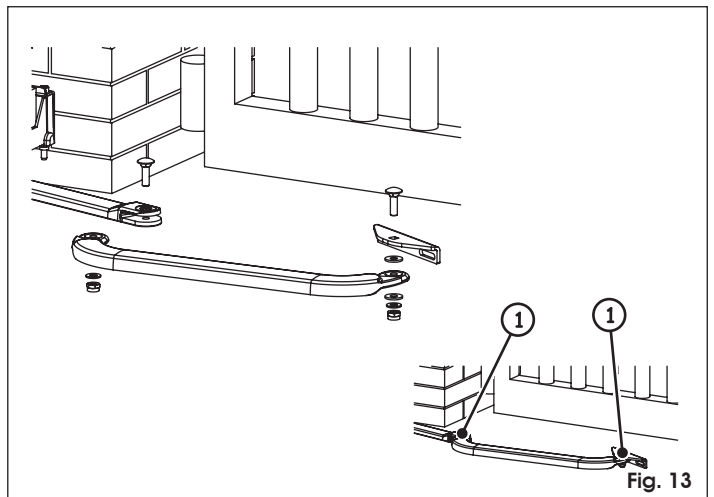

Fig. 13
7. Assemble the rest of the arm as illustrated in Fig. 13.
**For correct operation, tighten the two securing screws (Fig. 13 ref. ①) and then loosen them by about 1/2 turn to enable rotation without any friction on the arms.**